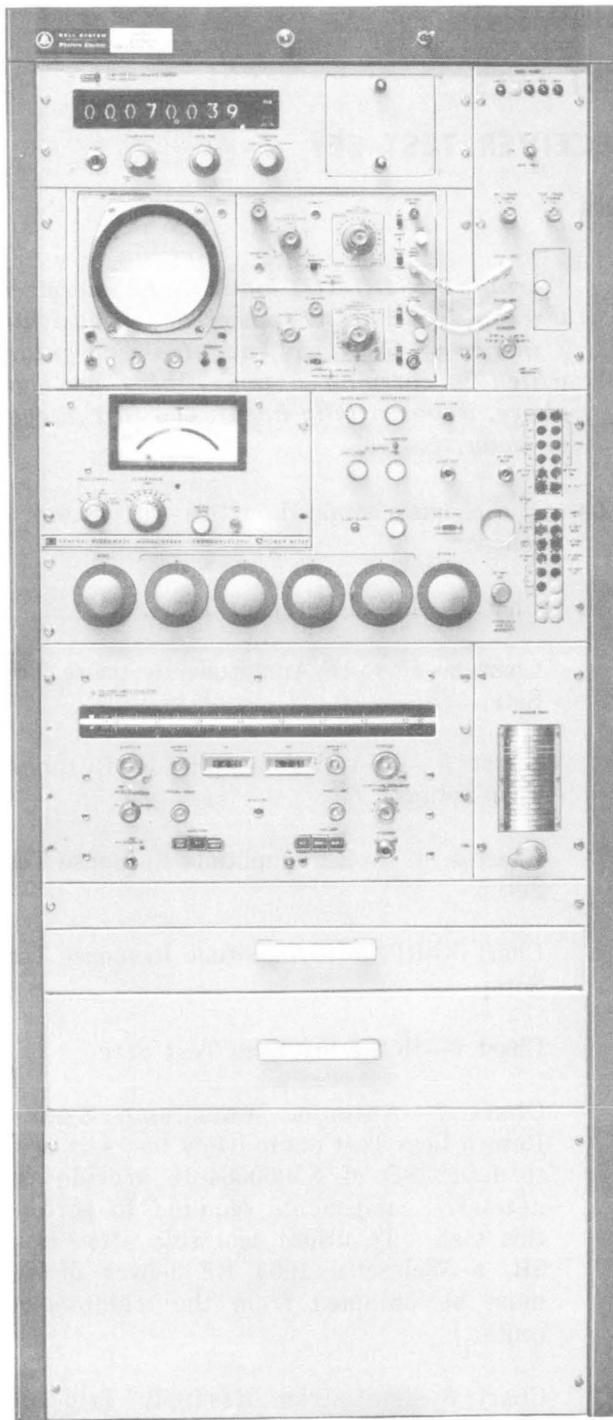
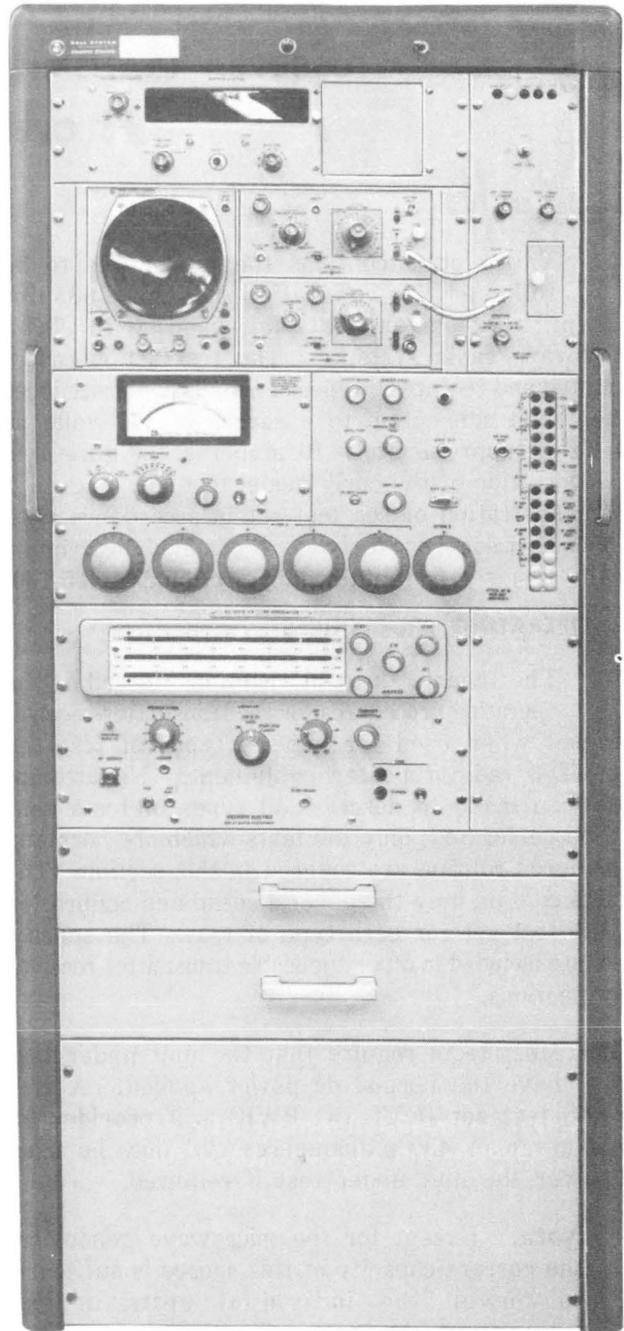

Fig. 1—J68392A Transmitter-Receiver Test Set
Fig. 2—J68392A Transmitter-Receiver Test Set
1.01 This section contains the procedures to be followed for operation of the J68392A transmitter-receiver test set used with TD-3 microwave radio systems. The test set is caster mounted and requires no special installation procedures other than connection to a source of 117 volts ac 60 Hz at approximately 10 amperes. Figure 1 is an illustration of the early model test set. Figure 2 is an illustration of the test set in accordance with SD-50564, Issue 12 and above. A complete description of the test set is contained in Section 104-415-100.